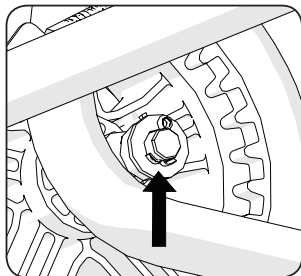

Fig 2
- Bend the split pins tines around the axle perimeter in opposite directions. **(Fig. 2)**